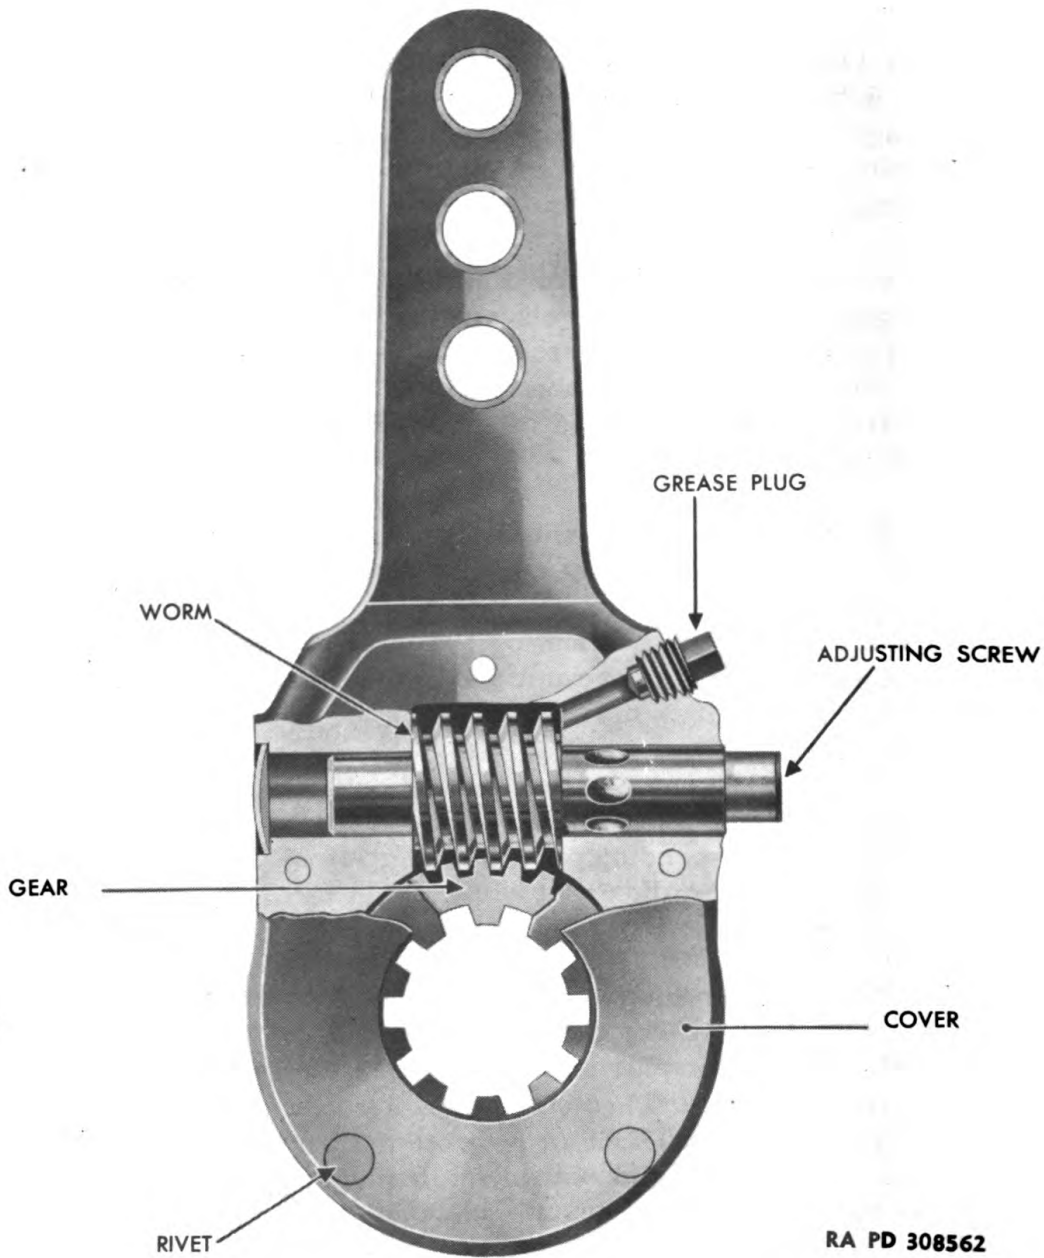

Figure 29—Slack Adjuster—Sectional View
(2) **ADJUST BRAKE SHOE.** Installation of new brake shoe linings or new brake drums necessitates readjustment of the brake shoe assembly. Loosen both nuts on both anchor pins (fig. 21) so that the anchor pins can be moved freely. Remove dust shields from adapter plates. Replace the wheel and drum assembly. If the assembly fails to slip into position freely, back off the slack adjusters by counterclockwise rotation of the worm screw (fig. 29) until brake shoes are free from the drum. Centralize the anchor pin eccentrics and tighten the slack adjuster worm screw until the shoes are tight in the brake drum. Turn the brake eccentric anchor pin to right or left as the slack adjuster is tightened, until the brakes are centralized in the drum. Use a feeler gage to set brake-shoe clearance. Set clearance at eccentric end at 0.010 inch. Set clearance at cam end at 0.015 inch. Tighten lock nuts on anchor pins, while holding pins firmly in place.